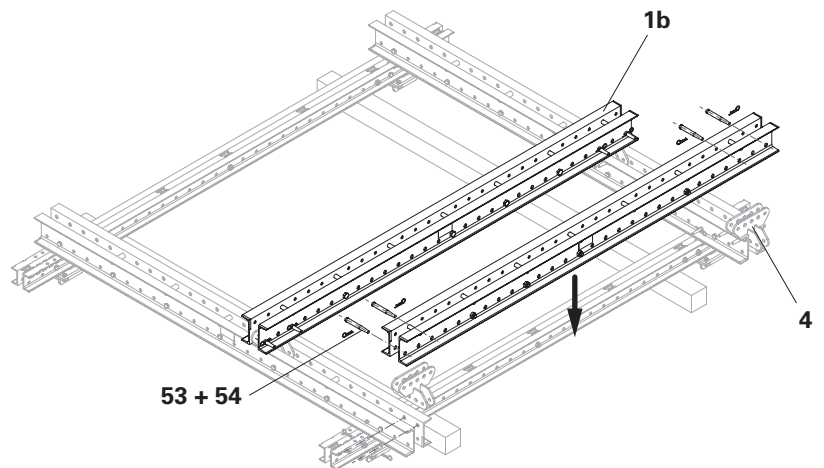

Fig. B2.07
4. Fasten the Climbing Rail RCS (**1b**) with fitting pin  $\varnothing$  26 x 120 (**53**) and secure with cotter pin 5/1 (**54**). (Fig. B2.07 + B2.08)